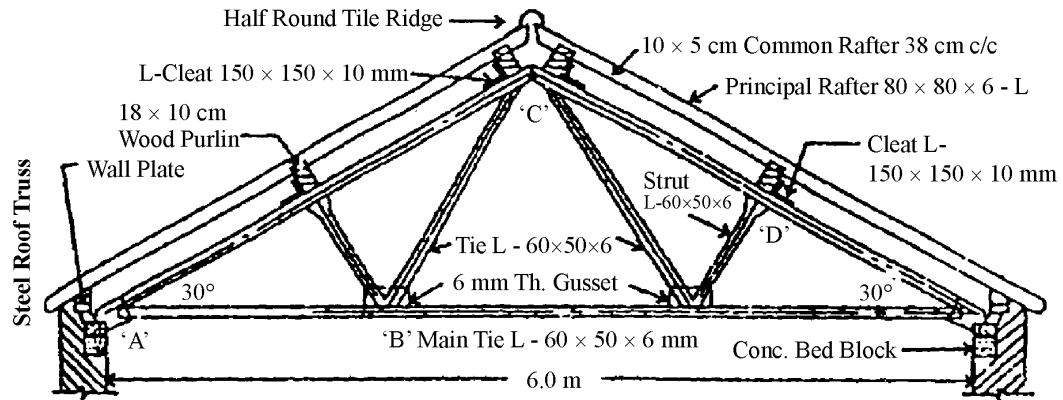

Fig. No. 2
- (a) Figure No. 2 shows roof truss for 6 m span. Draw detail connection of joint at A, B, C & D. Dimensions are in mm whose not given.